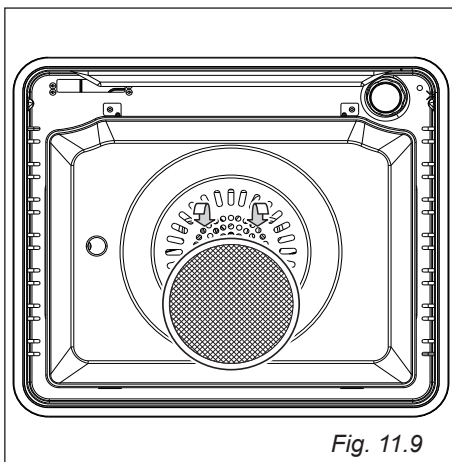

Fig. 11.9
- A special screen is provided at the back of the oven to catch grease particles, mainly when meat is being roasted. Slide in the grease filters on the back of the oven as in fig. 11.9.